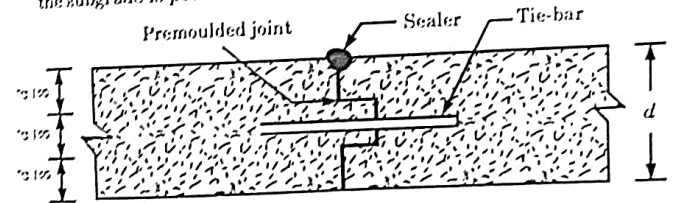

Fig. 4.21.4. Tongue and groove joint.
- a. Fig. 4.21.4 shows the tongue and groove type of longitudinal joint.